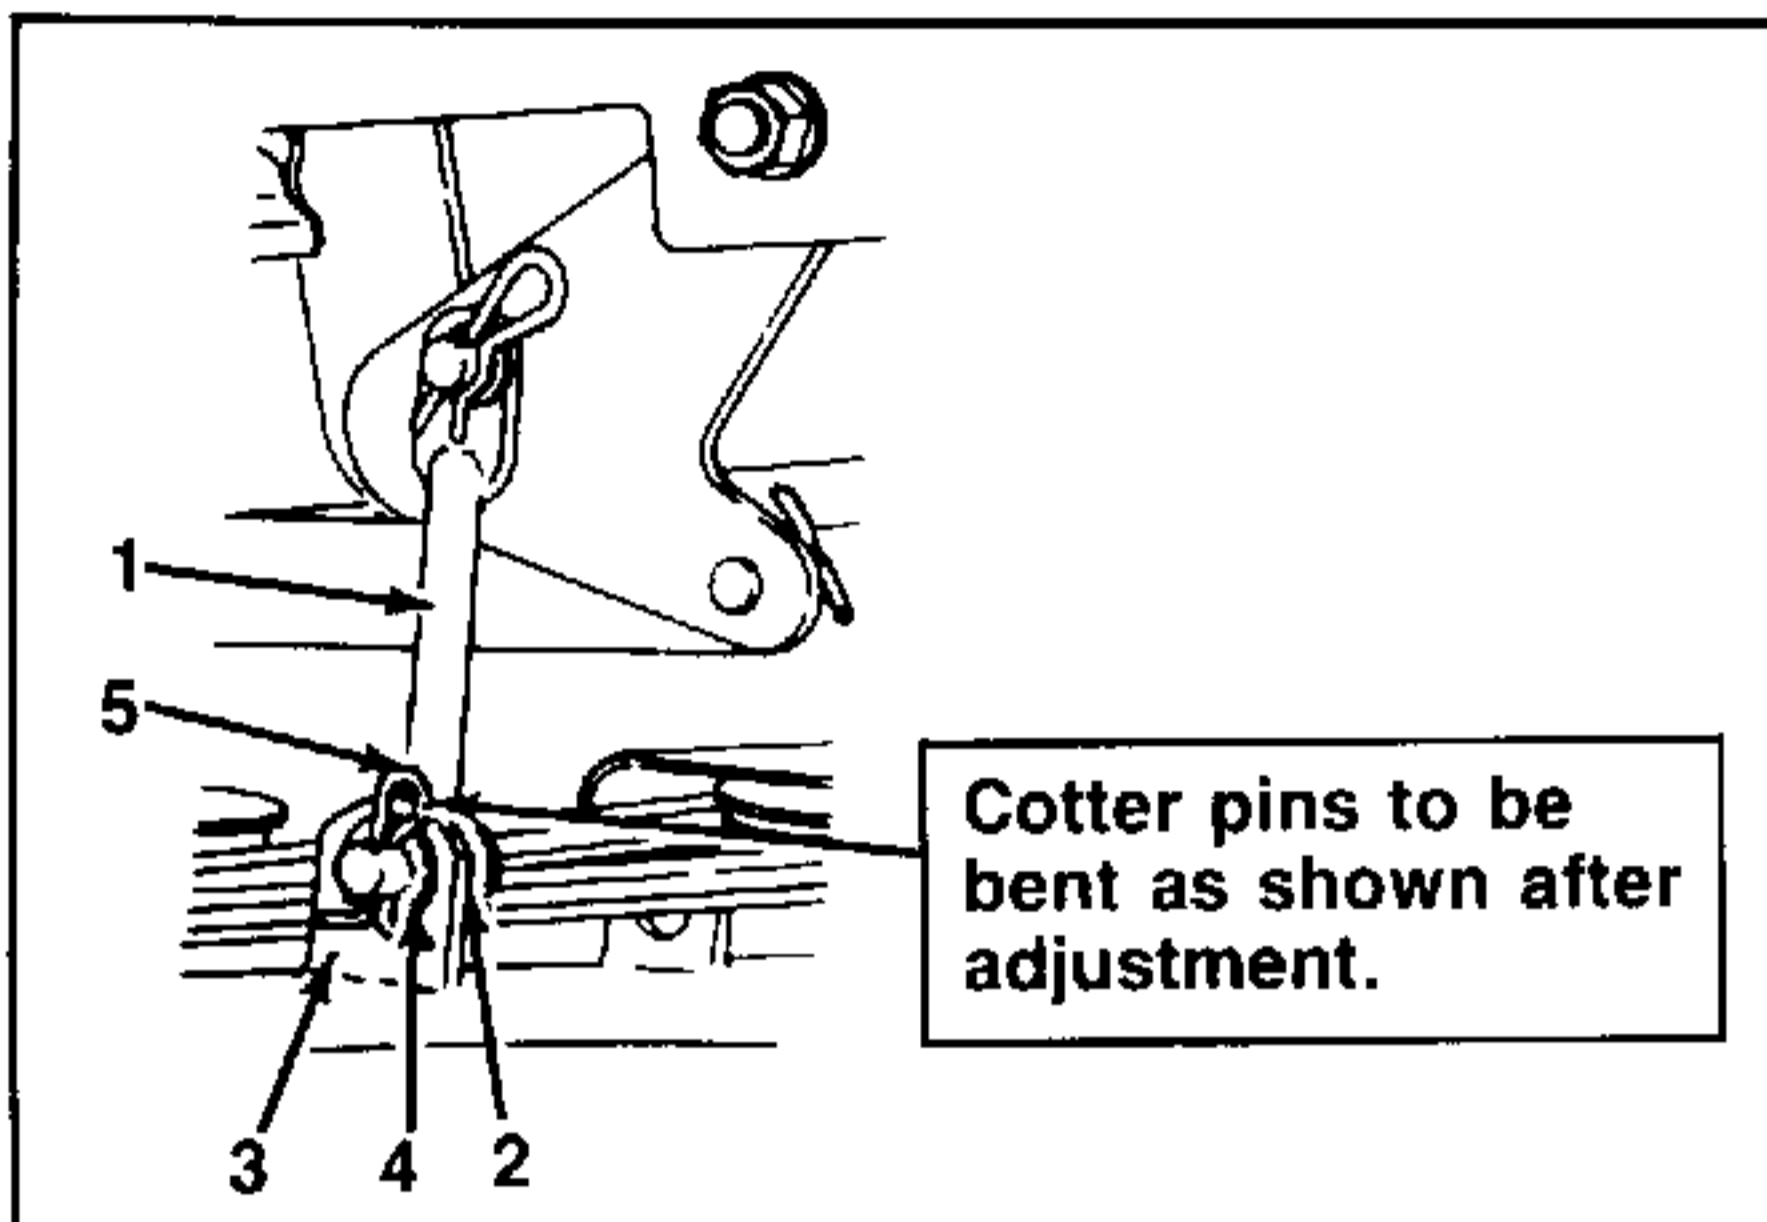

FIGURE 7.
7. Screw on and position ferrules to the front lift links. Refer to figure 7 and secure the links to the front deck brackets with flat washers and cotter pins.